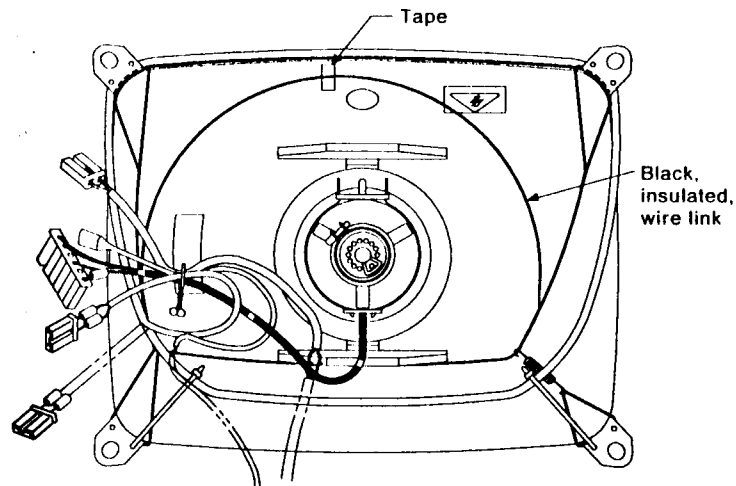

Figure 7. Replacement ITC (Supplied as shown)
- Replacement ITCs (IBM part 07F6591) are supplied, Figure 7 on page 64 shows these parts.
- Remove the tape shown in Figure 7 on page 64, and position the black insulated wire on the bridge.